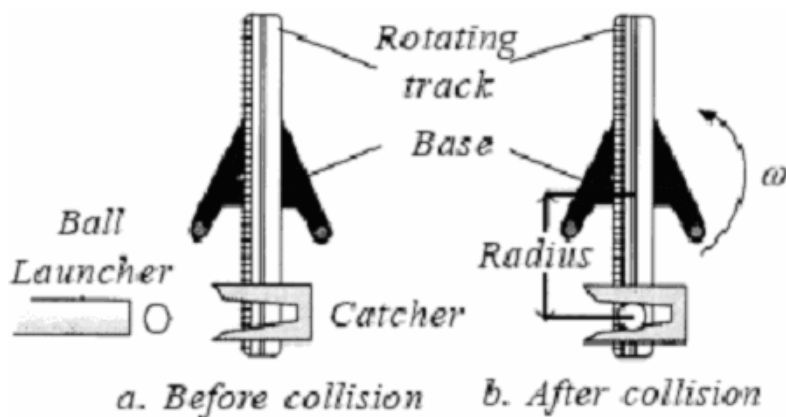

Figure 11.3: Top view of ball and track
7. Place the rotating track assembly at the table's edge so that the Smart Pulley extends beyond the edge and the catcher is in front of the spring gun when the track is perpendicular to the ball's flight path, as shown in Figure 11.3. Be sure that the rotating track does not strike the gun.